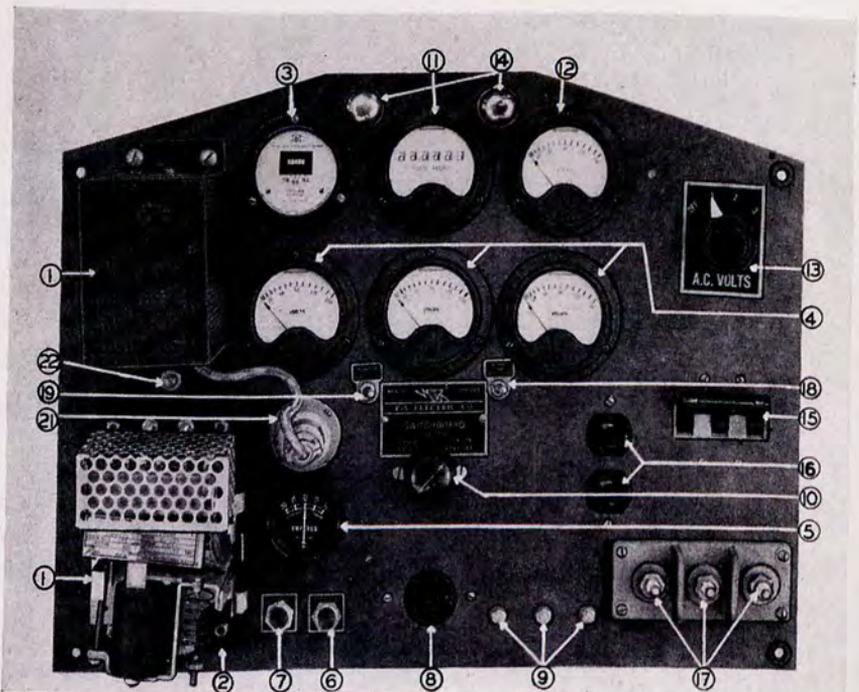

FIG. 4—CONTROL PANEL, FRONT POWER UNIT PE-99-E
(Refer to Figure 4)
- (1) Be sure MAIN CIRCUIT BREAKER is in OFF or DOWN position.
- (2) Move "A.C. VOLTS" switch (No. 13) to 1, 2, or 3 position, to be able to read A.C. VOLT METER (No. 12) in upper right of Control Panel.
- (3) Move Regulator Toggle Switch (No. 19) to ON position.
- (4) Turn SHUNT FIELD RHEOSTAT KNOB (No. 10) in center of board in clockwise direction all the way.
- (5) Check all phases for proper voltage on VOLT-METER by putting "A.C. VOLTS" SWITCH in 1, 2, or 3 position.
- (6) Check speed of alternator by seeing that FREQUENCY METER (No. 3) vibrating reed is on 60.
- (7) Put MAIN CIRCUIT BREAKER in ON or UP position which energizes all OUTLETS and POWER STUDS (No. 17).
- (8) Entire output load can be determined by the three A.C. AMMETERS (No. 4).
- (9) Unit can be started and stopped by START-STOP Push Buttons in lower left of panel, by Remote Cable plugged in Remote Control Receptacle (No. 8) or by cable attached to Remote Control studs (No. 9).
d. *Voltage Regulator (See Figures 4 and 29).* The Voltage Regulator is of the rheostatic type that automatically controls the voltage by means of varying a resistance which is connected in the exciter shunt field circuit. The Regulator is in operating position when the VOLTAGE REGULATOR SWITCH is in the ON position.
The flywheel is marked with the letters DC near one of the air circulating vanes. This vane is further identified by a mark cast on one end. (See Figure 4.) When the air blows out of the Number 1 spark plug hole, continue turning the starting crank until the edge of the marked vane on flywheel is in line with the mark on shroud as shown in Figure 4. Leave flywheel in this position. The keyway at take-off end of crankshaft will be on top. The magneto should then be fitted to the engine so that the marked tooth on the magneto gear is visible through the opening in timing gear housing as shown on Figures 4 and 5. The distributor cap on the magneto is numbered from 1 to 4. The leads from the magneto should be connected to spark plugs of like number. The magneto breaker point opening should be from .015 to .018 of an inch and these points should be kept smooth and clean. The proper spark advance for these engines is 27°. **MAGNETO OVERHAUL SHOULD BE MADE ONLY BY AUTHORIZED PERSONNEL.**